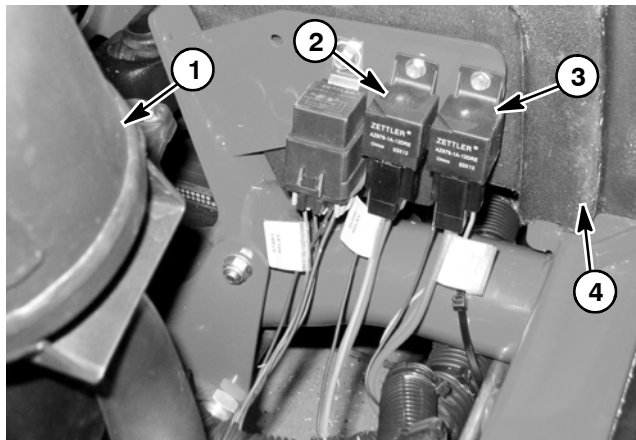
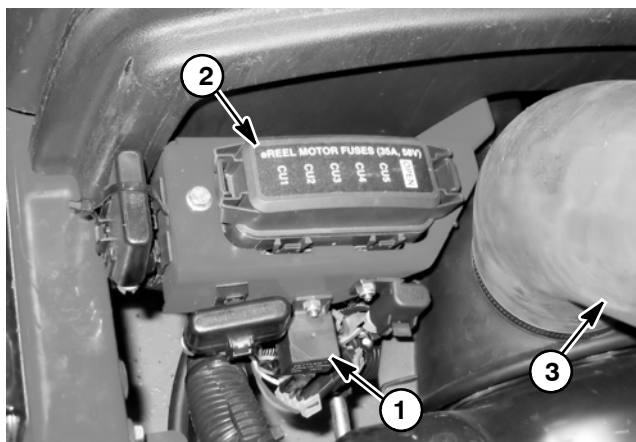

Figure 50
Figure 51
Your Reelmaster uses three (3) identical electrical relays that have four (4) terminals. The main power and glow relays are attached to a frame bracket under the hood near the engine exhaust muffler (Fig. 50). The 48 VDC logic relay is attached to a frame bracket under the hood behind the reel motor fuse block (Fig. 51). A tag near the relay harness connector identifies each relay.